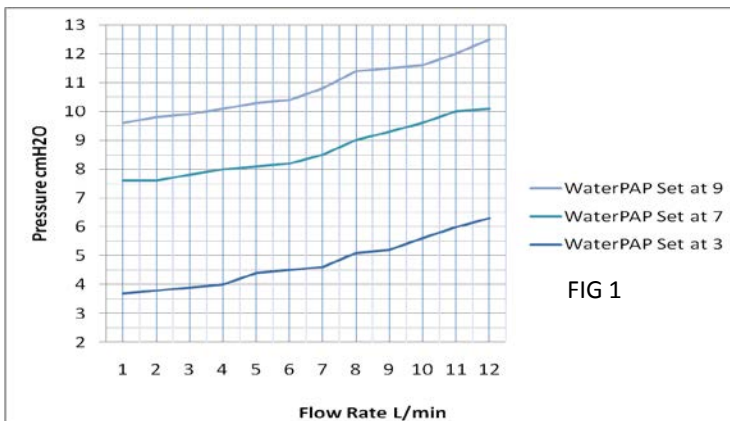

FIG 1
**Warnings:** Positive Airway Pressure (PAP) may have an adverse effect on patient cardiopulmonary status. Always use the corrugated tube with diffuser supplied with the WaterPAP Valve. Always use a pressure gauge to measure the delivered pressure proximal to the patient's airway. Flow rate increases result in higher than intended pressures being delivered with the use of this device. See FIG 1 below.